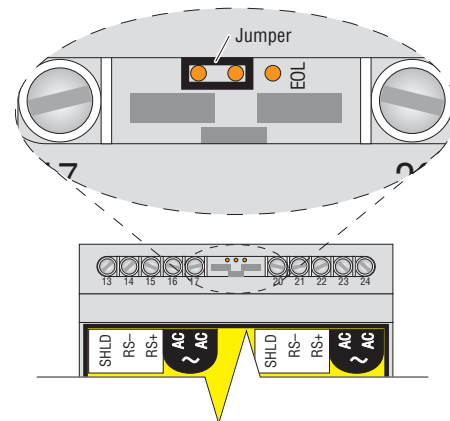

Figure 5b. End of Line Jumper for all other TTSIM's
- On all other TTSIM's in the circuit, place the jumper as shown in Figure 5b.